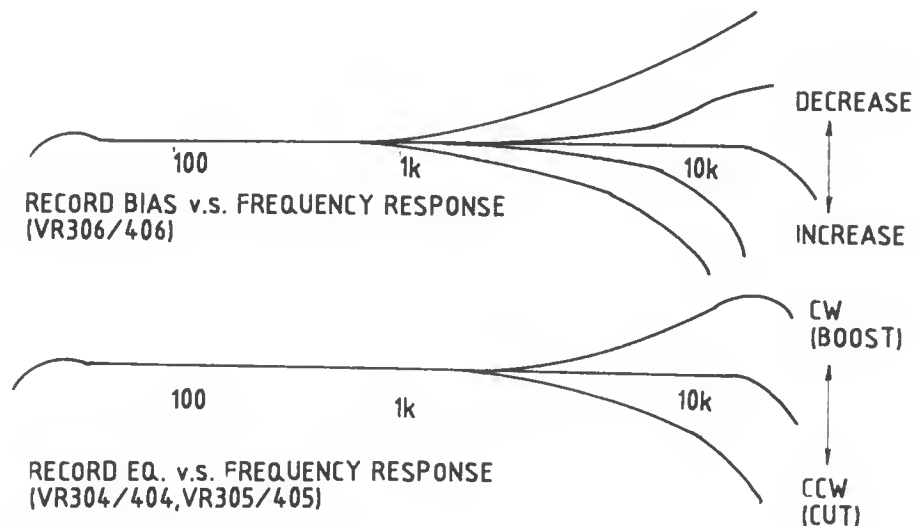
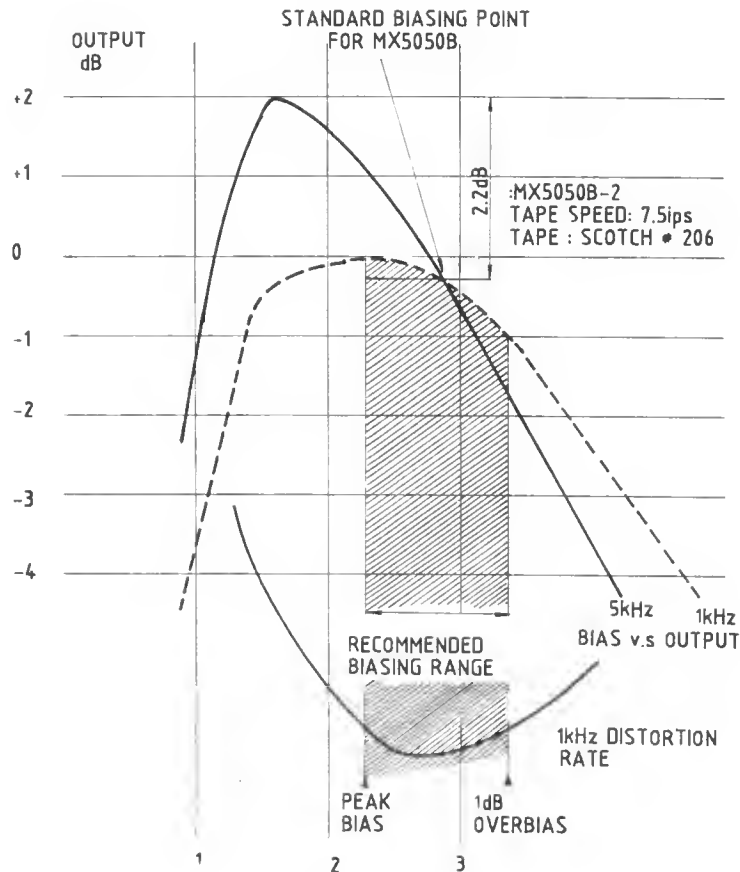

Fig. 5-9
Fig. 5-10
Figure 5-9 shows the variation of the frequency response by the bias set and the Record EQ adjustment control, and Fig. 5-10 shows the characteristics of the output and distortion vs. bias current.
- (1) Feed 1 kHz, 0 dBm signal to input of the recorder. Monitor the input and adjust input level control knob to read 0 VU on the VU meter. Then set the MONITOR switch to the TAPE position. Select SRL position of the SRL switch.
- (2) Put the machine in RECORD mode at 15 ips.
- (3) Turn down (counterclockwise) the bias control potentiometer once and gradually turn it up clockwise. The VU meter reading will increase. Find out the peak point of the output level as explained with Fig. 5-10.
- (4) Feed 10 kHz signal and adjust screw A3 to have same phase relation as explained previously at reproduce head adjustment.
- (5) When head adjustment has been completed, adjust VR303 (L ch in 15 ips) to have 0 VU reading on the VU meter.
- (6) Change input signal frequency from 30 Hz to 20 kHz and check if frequency response is within specification. Adjust Record EQ pot and bias if necessary.
- (7) Do the same steps for the record frequency response at lower tape speed. In this case input signal level should turn down by 10 dB, so recording should be held at -10 VU output.